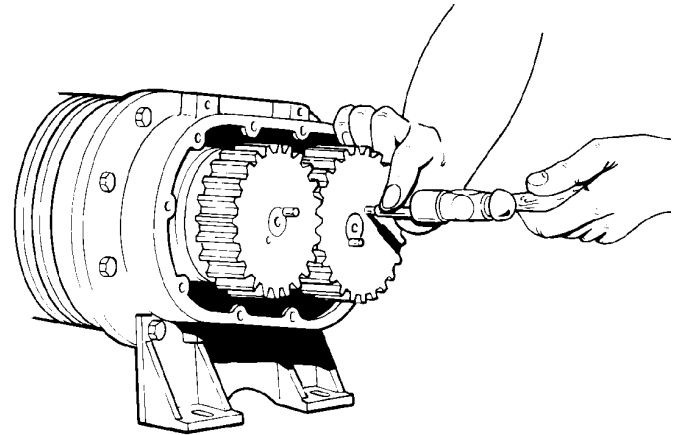

FIGURE 24
- E. Insert a mild steel or soft metal rod thru the small hole in the gear (9). Tap lightly until the feeler gauge is snug. Adjust both impellers using the same procedure. Rotate the impellers checking for clearance through a complete revolution (see FIGURE 24).